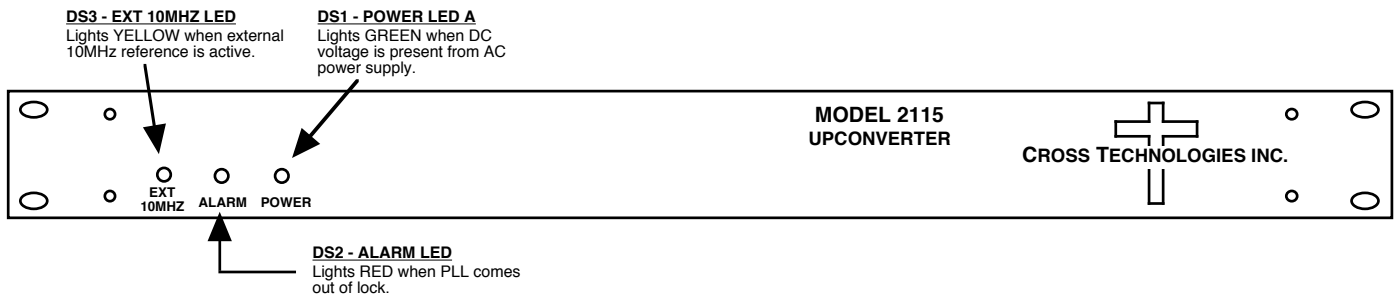

FIGURE 2.2 2115-122 Front Panel Controls and Indicators
4. Be sure DS1 (green, DC Power) is on and DS2 (red, Alarm) is off (Figure 2.2).
6. If EXT is selected or AUTO is selected and there is a 10MHz, +3 dBm signal at J2, check that DS3 (yellow, Ext 10MHZ) is on (Figure 2.2).